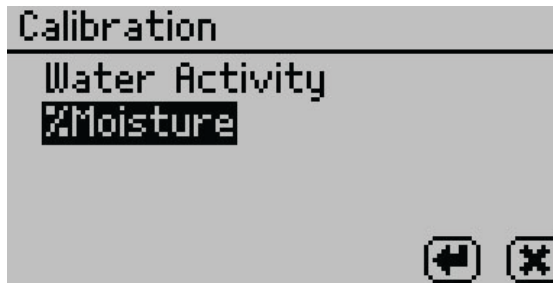

Figure 15 Select %Moisture on the Calibration tab
8. Select %Moisture from the list of calibration types (Figure 15).